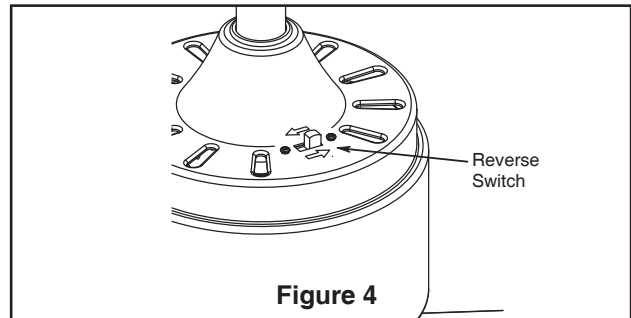

Figure 4
- ☐ 4. If airflow is desired in the opposite direction, turn the fan off and wait for the blades to stop turning. Slide the reverse switch on top of motor assembly to the opposite position and turn fan on again. (Figure 4)